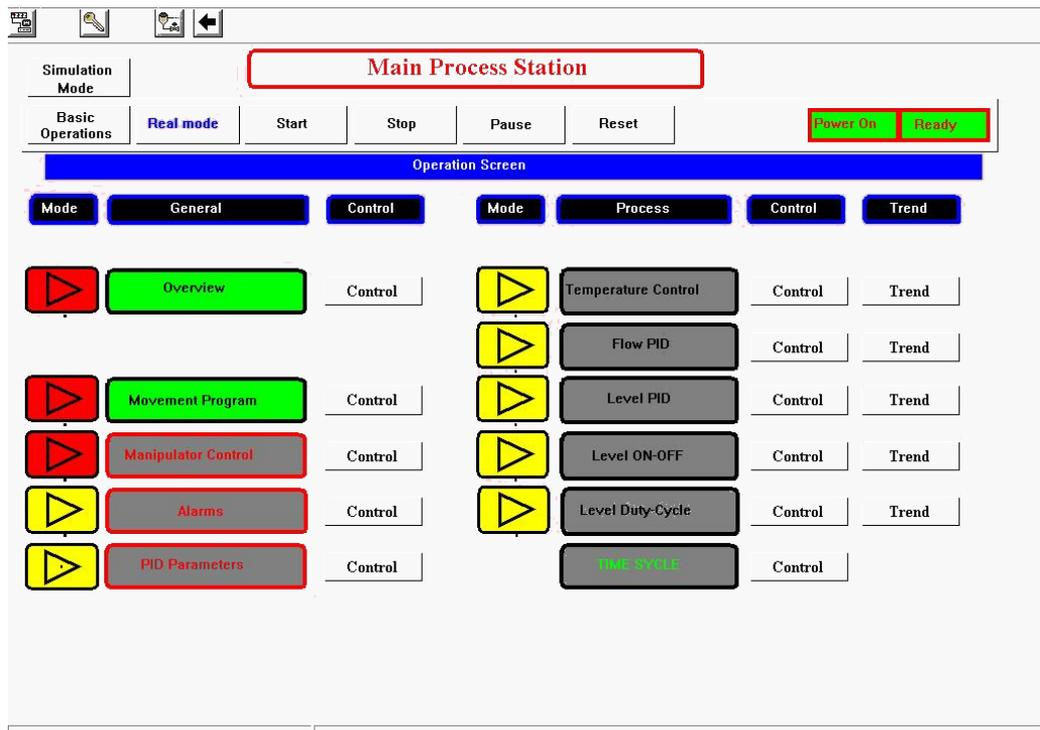

Figure 9-47: Main Process Station
- Click **Restart**. The Main Process Station window (shown in Figure 9-47: Main Process Station) is displayed in the background. Click **Close** to close the Vuniq Application Manager window.
3. Select **Operator Screens**. The Main Process Station window is displayed, as shown in, *Figure 9-47: Main Process Station*.
- Click the  icon to return to the Main Process Station window (shown in Figure 9-47: Main Process Station).